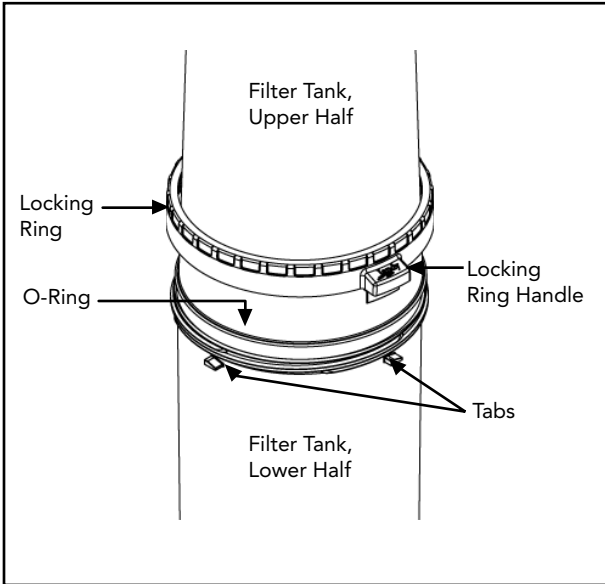

Figure 5- Locking Ring
1. Be certain the o-ring is in position in the lower tank half. Press the filter lid over the lower half until seated. Lubricating the o-ring with a silicone based lubricant will help with installation (see Fig. 5).